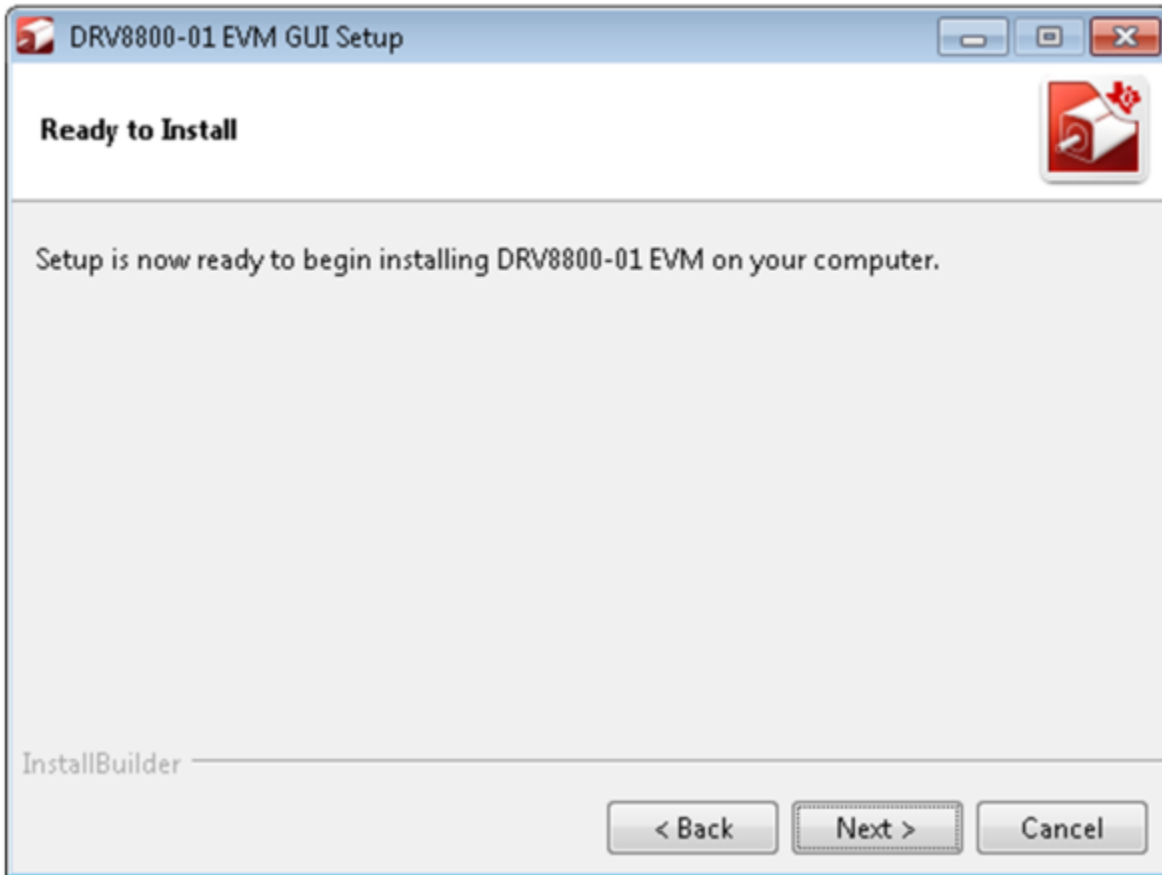

Figure 9. Ready to Install
8. A screen as shown in Figure 9 appears. Click **Next** to begin the installation.